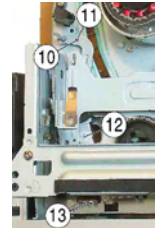

Fig. 5
- Adjust brake band ⑫ (Fig. 5) so that the hole ⑩ of tape tension lever is congruent to the hole ⑪ of the drive chassis.
- For adjustment eject torque cassette, change the hook-on position of the tension spring ⑬ (Fig. 5) and check again.